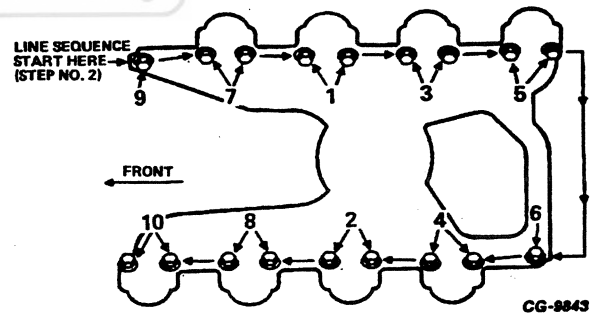

Figure 5. Intake Manifold Bolt Torque Sequence
NOTE 5 - Intake manifold bolt to be torqued in steps as specified in **Figure 5**.
- STEP 1. Tighten bolts to 24 lbf-ft. (33 N•m) in numbered sequence as shown in Figure 5.
- STEP 2. Tighten bolts to 24 lbf.ft. (33 N•m) in line sequence as shown in Figure 5.